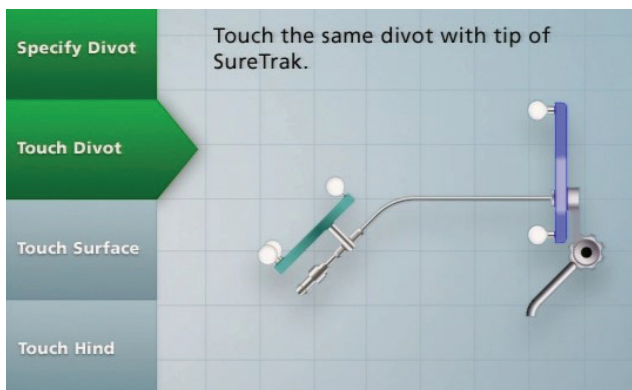

Figure 10
• **Step 2** - Touch the same divot with tip of the assembled Zimmer Biomet instrument with a SureTrak array (Figures 10).